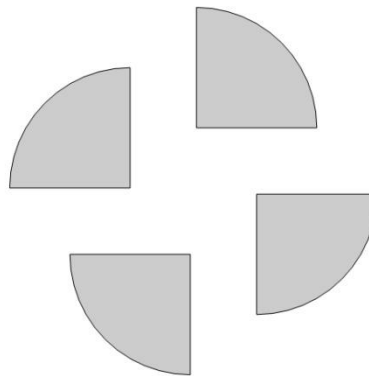

Figure 79: Panel Orientation Error Example
- **Mounting Surface Panels:** Mount the main surface panels first. Slide two of them together, creating a half circle and align them based on the center point of the table and their respective slides. When satisfied with their position, clamp them in place, add the other panels and clamp them in place as well. Expand the table and measure to see if their edges have remained parallel. You should also sight down the edges of the panels to see if they align with their neighbor panel. If the panels are correctly aligned over the table center, but not centered on their slides, you will end up with a (hopefully less exaggerated) version of Figure 79 when expanded.